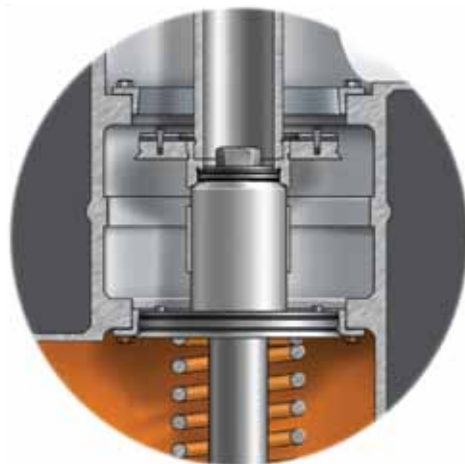

Figure 2
2. Pneumatic pressure at the top of the actuator cylinder moves the piston downward, compressing the outlet return spring and forcing the outlet block open. The cage slides down over the post until the machined surfaces inside the cage come in contact first with a spring-energized soft seal, and then with a metal back-up seat, closing the vent. (Figure 2)
2. As the inlet valve enters its seat ring, gas flow is isolated. The inlet block moves through its overtravel until contact is made with the metal back-up seat to fully close the inlet valve (Figure 2)